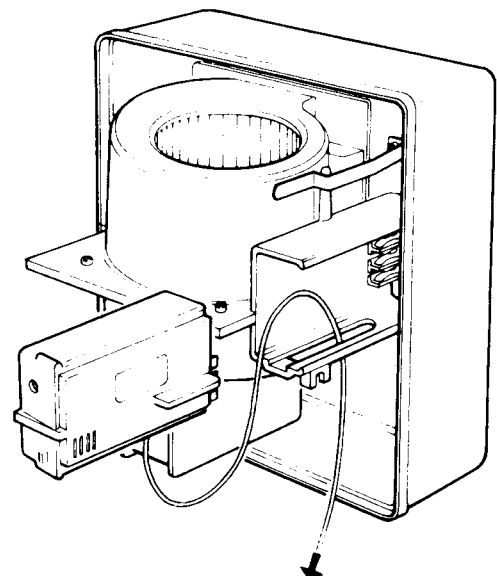

Fig. 5. Feeding the pull-cord through the housing.
6. Fit the fan assembly to the case, securing it with the two spring clips. Install the electronic control module ensuring that it is fully engaged in the internal socket. If the pull-cord option is required it should be fed through the aperture on the impeller housing before sliding the control module into place. Fig. 5. (If the pullcord option is not required it must be removed, see warning note on page 1).
7. Replace the front cover and secure using the two screws provided (loose with filter and instructions). NOTE: Ensure the pull cord (if fitted) passes through the slot in the base. (Fig. 5).
7. Fit the electronic control module, ensuring that it engages with the internal socket. Note: If pullcord option is required, the cord should now be fed through the aperture and into the small slot in the base. see Fig.5. (If pullcord is not required it must be removed, see warning note on page 1).